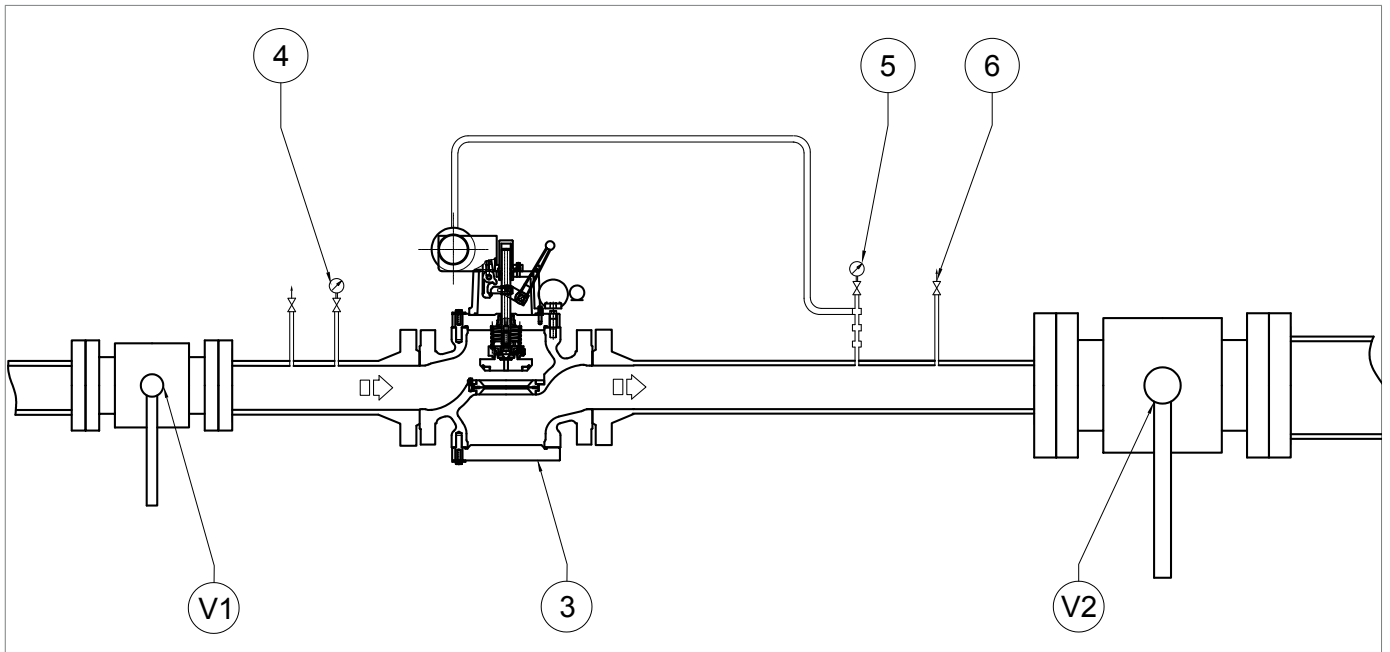

Fig. 8.11. Checking the tightness of the slam-shut valve SBC 782
1	<p>Increase the downstream pressure (<math>D_p</math>) to check correct calibration:</p> <ul style="list-style-type: none"> <li>of the line, using an external pressure source</li> <li>of the pressure switch head, referring to "8.5.3 - Pressurising with external source".</li> </ul> <p>! NOTICE!</p> <p>Check the pressure referring to the downstream pressure gauge (Fig. 8.11, ref. 5).</p> <p>If the slam-shut valve:</p> <ul style="list-style-type: none"> <li>trips before the expected pressure value: screw in (clockwise) the adjustment ring nut (13) so as to further compress the spring (11);</li> <li>does not trip at the expected pressure value: unscrew (anti-clockwise) the adjustment ring nut (13) so as to relieve the spring (11).</li> </ul>
2	Decrease the pressure in the pressure switch head using the drain cock (3) of the external source or the drain cock (Fig. 8.11, ref. 6)
1	Partially open the drain cock (Fig. 8.11, ref. 6) and keep it open for the next steps.
2	<p>Decrease the downstream pressure to the minimum required slam-shut valve pressure.</p> <div style="border: 1px solid black; padding: 5px;"> <p>! NOTICE!</p> <p>Check the pressure referring to the downstream pressure gauge (Fig. 8.11, ref. 5).</p> <p>If the slam-shut valve:</p> <ul style="list-style-type: none"> <li>• trips before the expected pressure value: unscrew (anti-clockwise) the adjustment ring nut (15) so as to relieve the spring (17);</li> <li>• does not trip before the expected pressure value, screw in (clockwise) the adjustment ring nut (15) so as to further compress the spring (17).</li> </ul> </div>
3	Close the bleed cock (Fig. 8.11, ref. 6).
2	By opening the vent (Fig. 8.11, ref. 6), decrease the pressure in the downstream section to the calibration value of the main regulator.
3	Close the air vent valve (Fig. 8.11, ref. 6).
2	<p>Decrease the downstream pressure to the minimum required slam-shut valve pressure.</p> <div style="border: 1px solid blue; padding: 5px;"> <p>! NOTICE!</p> <p>Check the pressure referring to the downstream pressure gauge (Fig. 8.11, ref. 5).</p> <p>If the slam-shut valve:</p> <ul style="list-style-type: none"> <li>• trips before the expected pressure value: unscrew (anti-clockwise) the adjustment ring nut (15) so as to relieve the spring (17);</li> <li>• does not trip before the expected pressure value, screw in (clockwise) the adjustment ring nut (15) so as to further compress the spring (17).</li> </ul> </div>